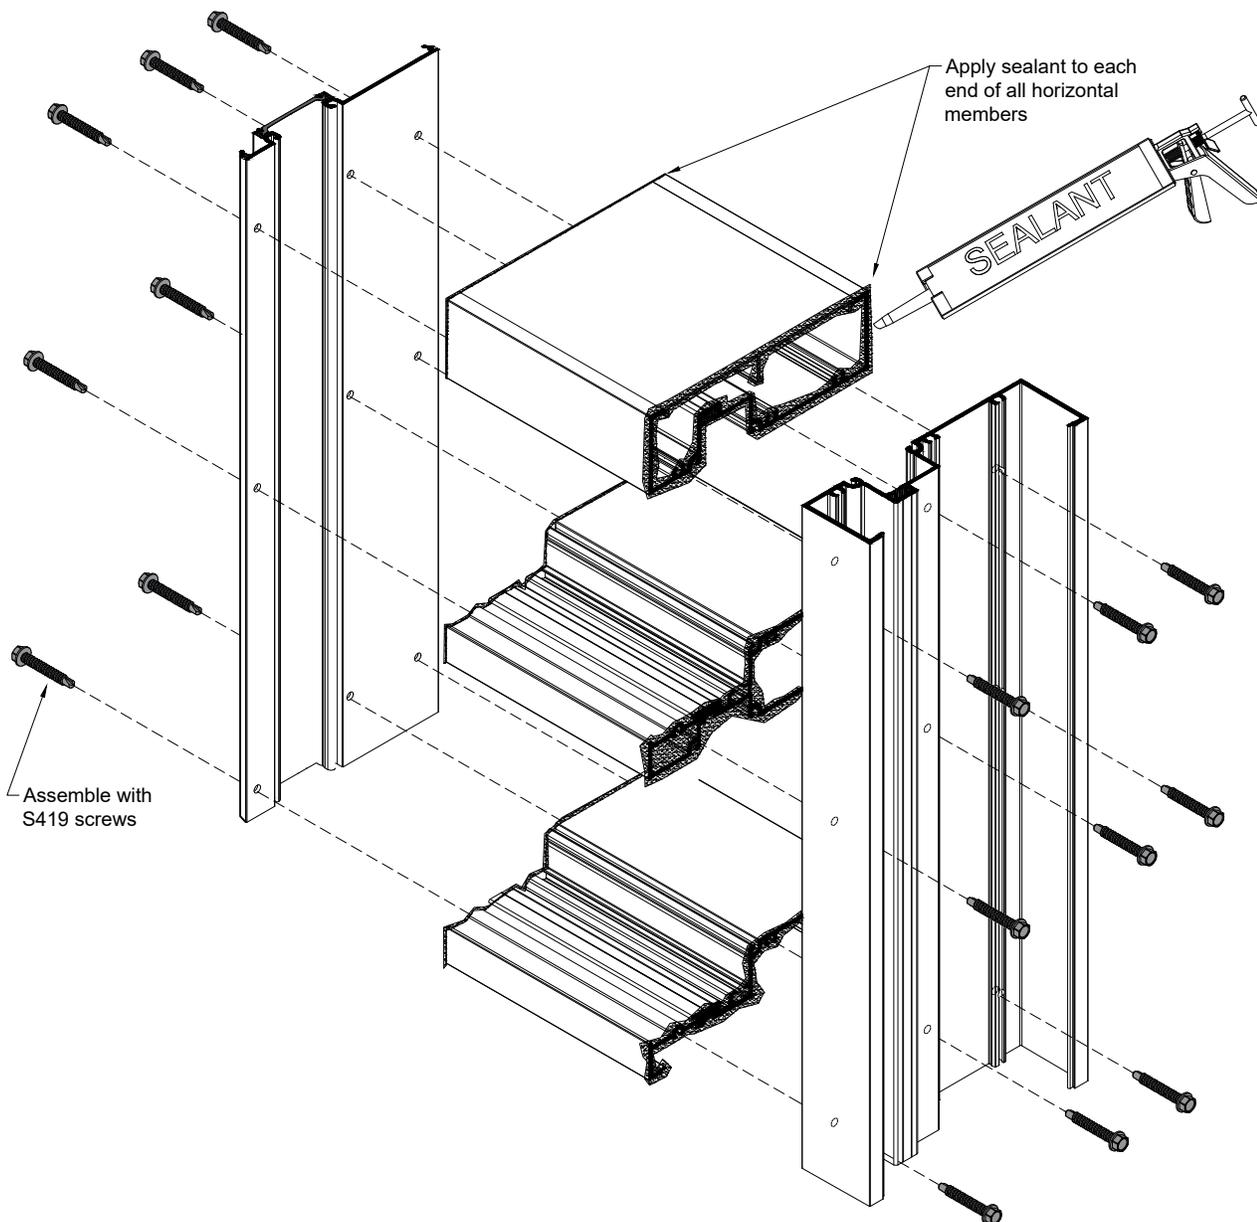

Fig.33.1
- I. Attach a snap cover or brake metal to the inside surface of the sidelite base. **SEE Fig.33.1**
- K. Attach a snap cover or brake metal to the exterior. **SEE Fig.33.1**
- B. Apply sealant to ends of the head, horizontal and sill members prior to attaching to the vertical members. **SEE Fig. 33.1.**